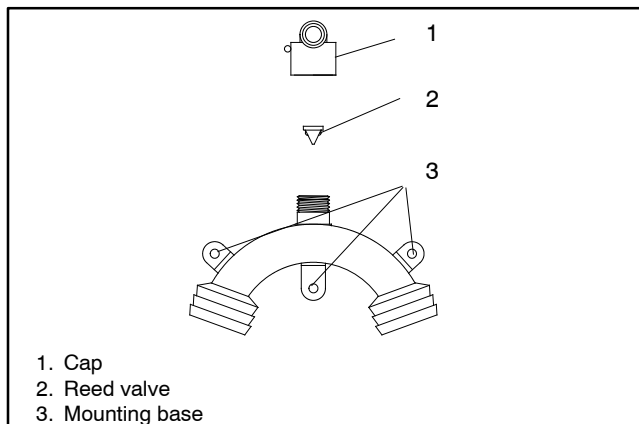

Figure 3-1 Siphon Break
2. Remove the retaining cap and remove the reed valve for inspection. See Figure 3-1.
6. Install the reed valve into the mounting base with the valve downward. See Figure 3-1, item 2.